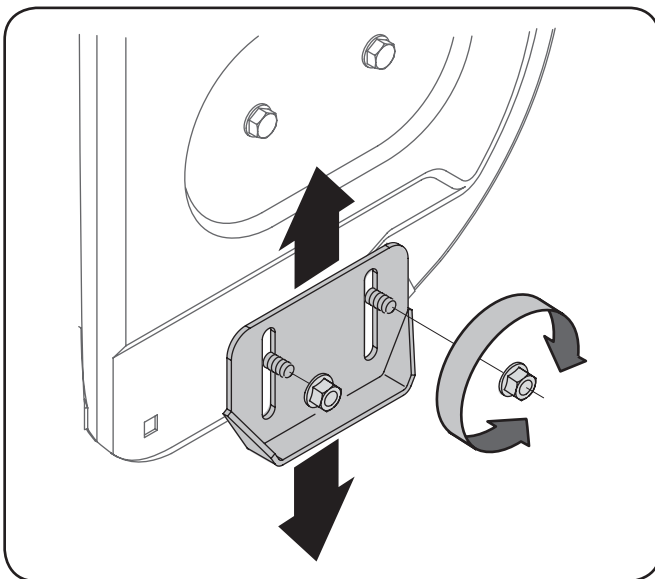

Figure 3-16
1. Loosen the four hex nuts (two on each side) and carriage bolts. Move skid shoes to desired position. See Fig. 3-16.